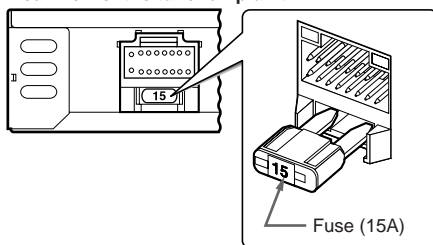

Figure 10
4. When any fuse is to be replaced, pull out the fuse (15A) at the rear of the tuner amp unit and put in a new one (Fig.10).